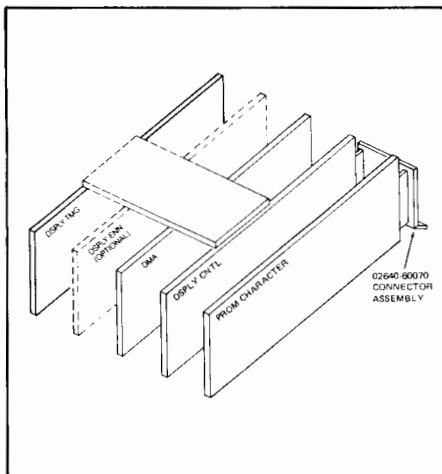

Figure 2-30. PCA Configuration If The Primary Character Set Is To Be Replaced
8. Open the terminal rear door and install the end connector 02640-60070 on the PROM Character PCA (if the primary character set is being replaced) or the Display Enhancement PCA (if one or two alternate character sets are being replaced (figures 2-30 and 2-31).